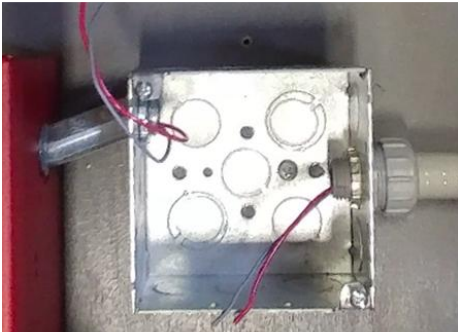

Figure 12.6
8. See **Figure 12.6** Run **14 AWG Solid** wires from additional Signal Horn, through raceway and into factory installed Signal Horn back box. **NOTE:** UNITED Fire Systems recommends using **RED**, and **GRAY** or **BLACK** wires for consistency and polarity identification.